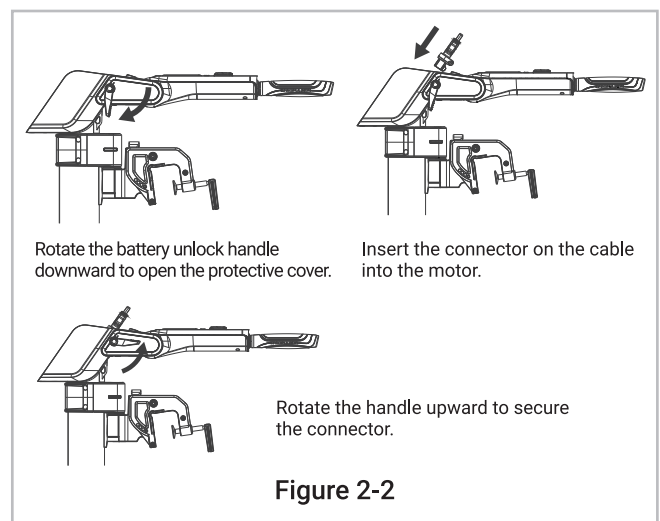

Figure 2-2
2. Connecting to the Outboard Motor: Connect the connector plug at the left end of the cable to the socket on the outboard motor by following the steps shown in Figure 2-2.